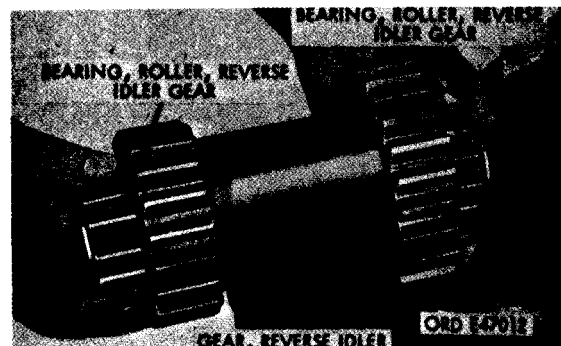

Figure 256. Removing reverse idler gear assembly
- (c) Pull reverse idler gear shaft from transmission case and lift out reverse idler gear (fig. 256) and reverse idler gear bearings.